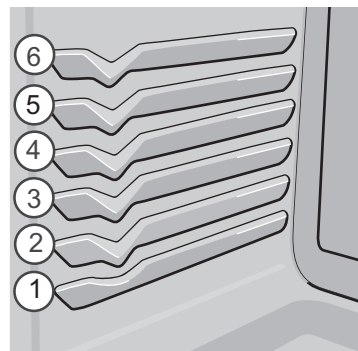

Fig. 2 Oven rack positions
- For best results when baking cakes using two oven racks, place racks in positions 3 and 5. (Figure 2)
- For best results when baking cookies using two oven racks, place racks in positions 2 and 5. (Figure 2)